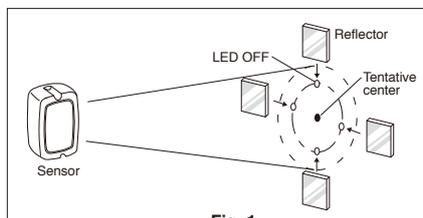

Fig. 1
- If the operation LED lights up, check the position where it goes off while moving reflector slowly vertically and horizontally by sliding for positioning tentative center of coverage. * (Fig 1.) Move the reflector as slowly as possible because it takes approx. 1.5 sec at least till operation LED goes off though the reflector comes in coverage. If moving is too fast, the PR-5B will not have time to rest and operation LED will not go off.